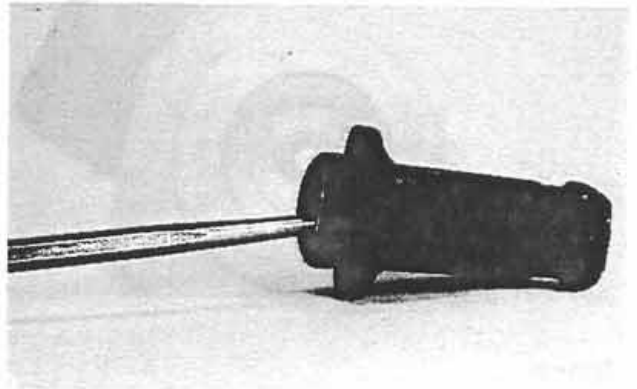

Figure 4:
4. Using a snap ring pliers or screwdriver (depending on the type of snap ring used), remove the snap ring while holding the piston inward against spring pressure (Fig. 4).